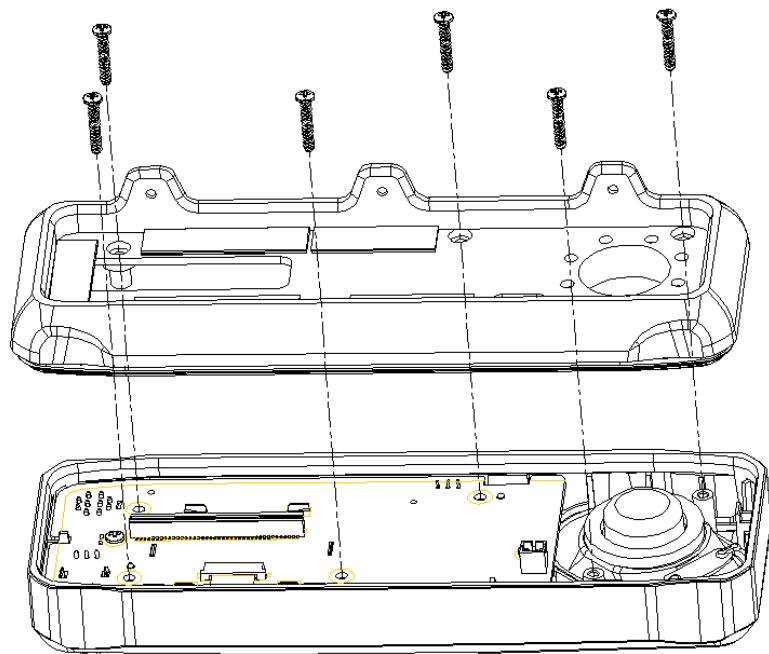

Figure 5.8
- (2) Unscrew 6 self drive screws, remove rare cover together with O-ring as per Figure 5.8